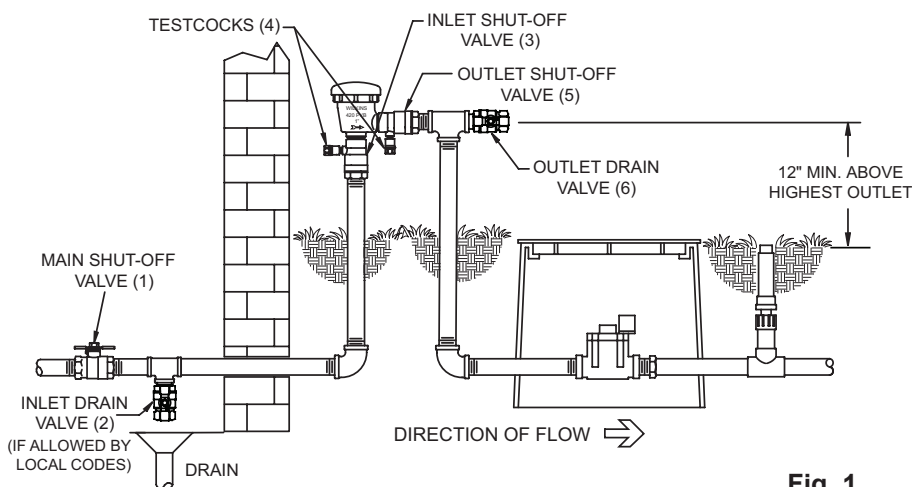

Fig. 1
2. The Model 420XL must be installed in a vertical position (see Fig. 1) to provide proper operation of the air inlet valve.